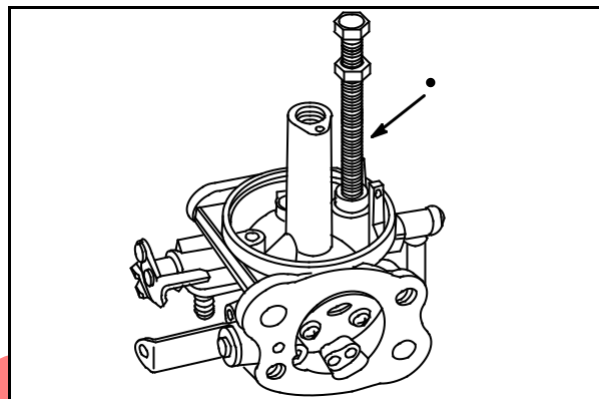

Fig. 49
Use Screw **#93029** (1) from Flywheel Puller, **#19165**. Thread screw into seat body **3 - 4** turns, **Fig. 49**. Remove the screw from the seat body.